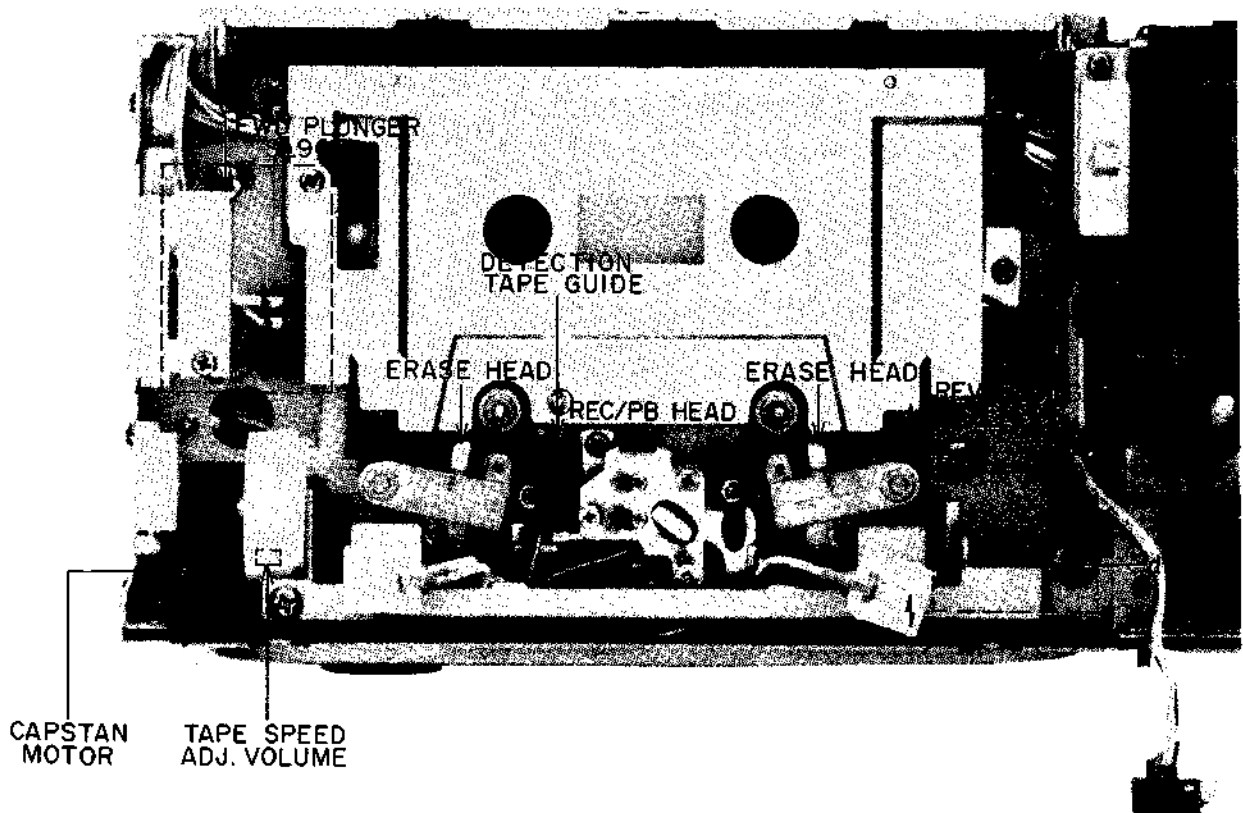

Fig. 18
- 1) Forward Plunger Adjustment (Refer to Figs. 18, 20)
- 3) Reverse Plunger Adjustment (Refer to Figs. 18, 20)
(Refer to Fig. 18)